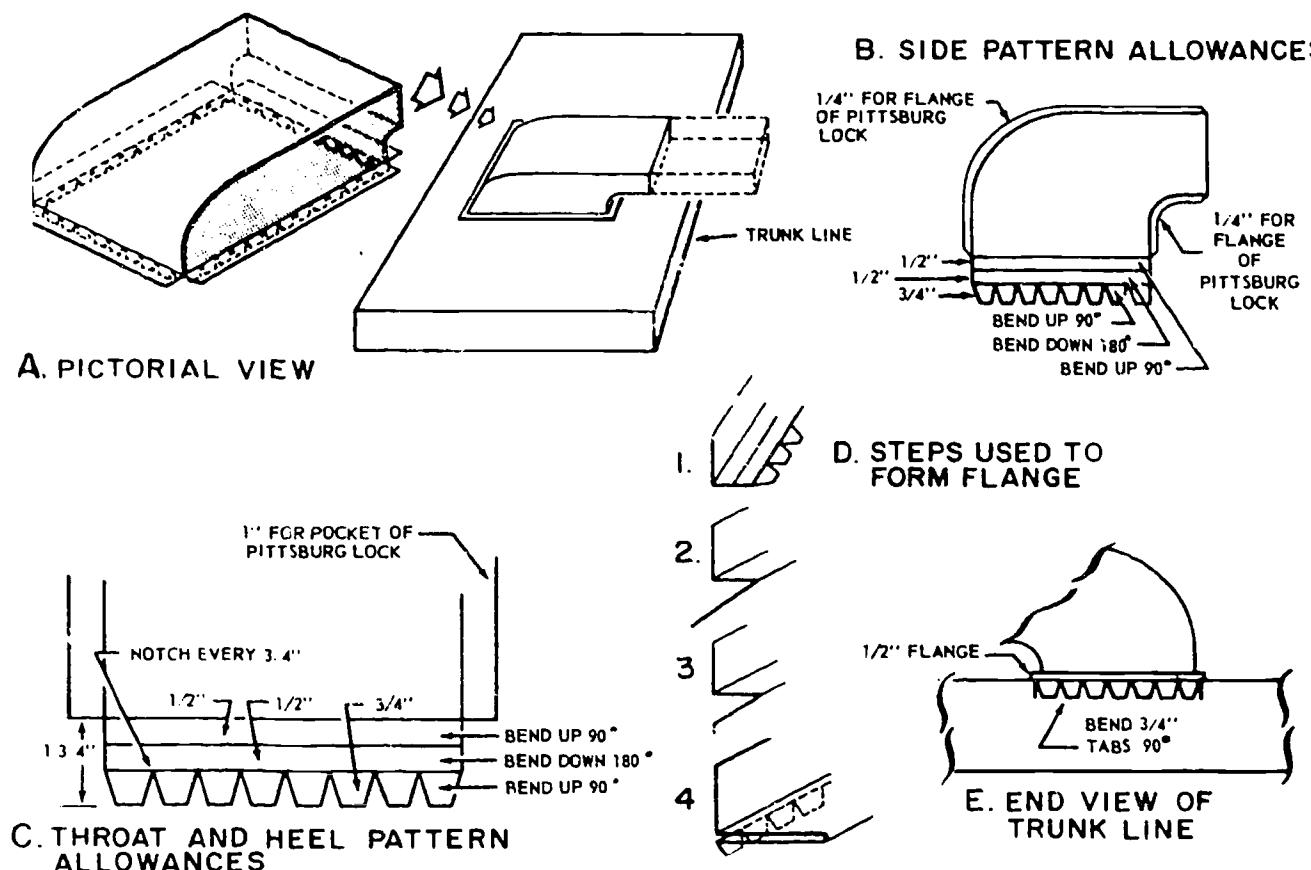

Figure 2-18. Making a tapped connection for a curved takeoff fitting.
**Tapped Connection.** A tapped connection, like the one shown in view A of figure 2-18, is used to join a takeoff fitting to a duct. A takeoff fitting (also called a takeoff or simply a fitting) is used to connect a smaller duct or branch line to a larger duct, such as a trunkline. You may find some sheet metal workers using other names of the tapped connection of a takeoff. ("Clinch lock," "P-lock," and "tap connector" are often used. In step 4, view D, of figure 2-18, you can see the flange (sometimes called a frame or collar), which forms a base for the takeoff fitting when it is installed in the trunkline opening. After the tabs are inserted in the opening, they are bent 90° to lock the fitting to the trunkline. A takeoff fitting may be curved, straight, or tapered, making a neat flush fit.
The curved tapped connection illustrated in figure 2-18 is in the form of an elbow, and four pieces are required for its fabrication: two sides, a throat, and a heel. Pittsburg lock seams are used to join all four corners. The material allowance to make this tapped connection is included in each pattern. Note in view B and view C of the illustration that the allowance on each pattern is  $1\frac{1}{4}$  inches.
Before you form the tapped connection with a cornice brake, you must form the flanges and pockets for the Pittsburg lock seams. Turn the  $\frac{1}{4}$  inch flange on the two side patterns, and form the pocket on the throat and heel patterns. Next, form the  $\frac{1}{2}$  inch flange for the tapped connection, as shown in steps 1 through 4 of view D in figure 2-18. Bending this flange with a cornice brake is the same procedure used earlier in this chapter to form a standing seam.